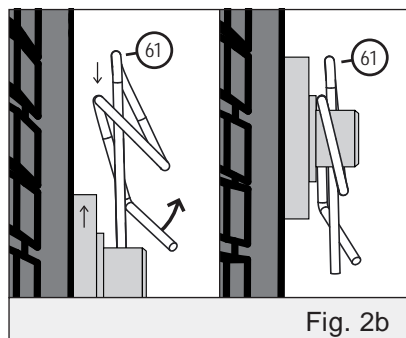

Fig. 2b
2. Add 1 washer (62) to the wheel axle (36), then slide on the tire (63) and another washer (62).
Secure in place with the Rue Ring Locking Pin (61). (See figures 2b and 3c below).